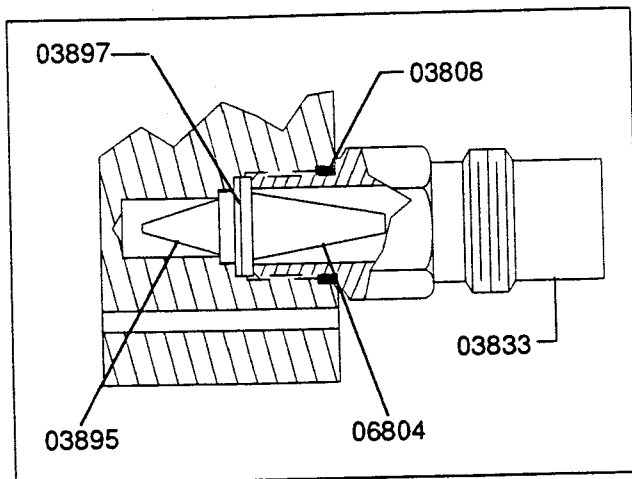

Figure 25
21.0 AIR INLET ASSEMBLY - BOTTOM REAR, LEFT OF VALVE BLOCK (FIGURE 25)